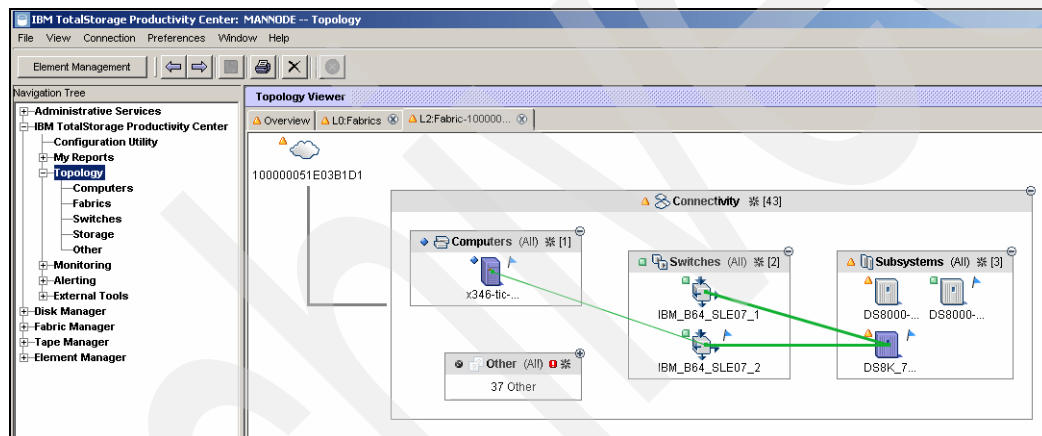
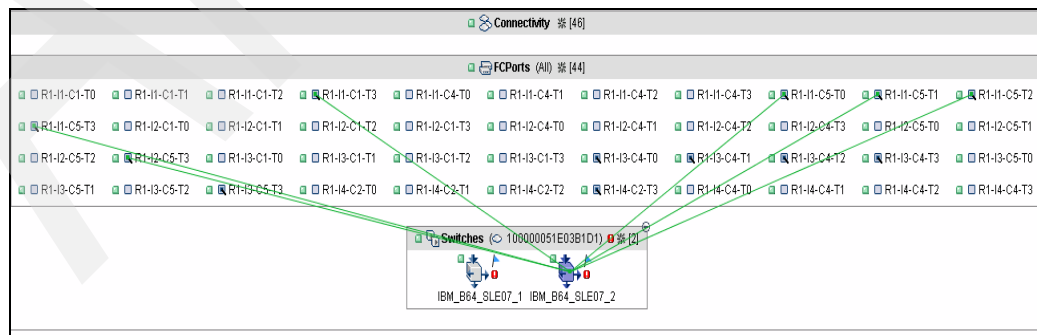

Figure 12-26 Topology view of physical paths between one host and one DS8700 system
Figure 12-27 Topology view: Detailed view of the DS8700 host ports assigned to one of its two switches
If Out of Band Fabric agents are configured, TPC-BE can display physical paths between SAN components. The view consists of four windows (computer information, switch information, subsystem information, and other systems) that show the physical paths through a fabric or set of fabrics (host-to-subsystem or subsystem-to-subsystem). To display the path information shown in Figure 12-26 and Figure 12-27, perform the following steps:
4. Press Ctrl and click any additional devices to which you would like to display the physical path (Figure 12-26).
5. To get more details about the connectivity of dedicated systems, as shown in Figure 12-27, double-click the system of interest and expand the details of the system view.
In Figure 12-26, the display of the Topology view points out non-redundant physical paths between the host and its volumes located on the DS8700 system. Upgrading TPC-BE with additional TPC licenses will enable TPC to assess and warn you about this lack of redundancy.
In Figure 12-27 on page 292, the display of the Topology viewer points out that the switch connectivity does not match one of the recommendations given by the DS8700 Information Center on host attachment path considerations for a storage image. In this example, we have two I/O enclosures in each I/O enclosure pair (I1/I2 or I3/I4) located on different RIO loop halves (the DS8700 Information Center1 mentions that “you can place two host attachments, one in each of the two I/O enclosures of any I/O enclosure pair”). In the example, all switch connections are assigned to one DS8700 RIO loop only (R1-I1 and R1-I2).